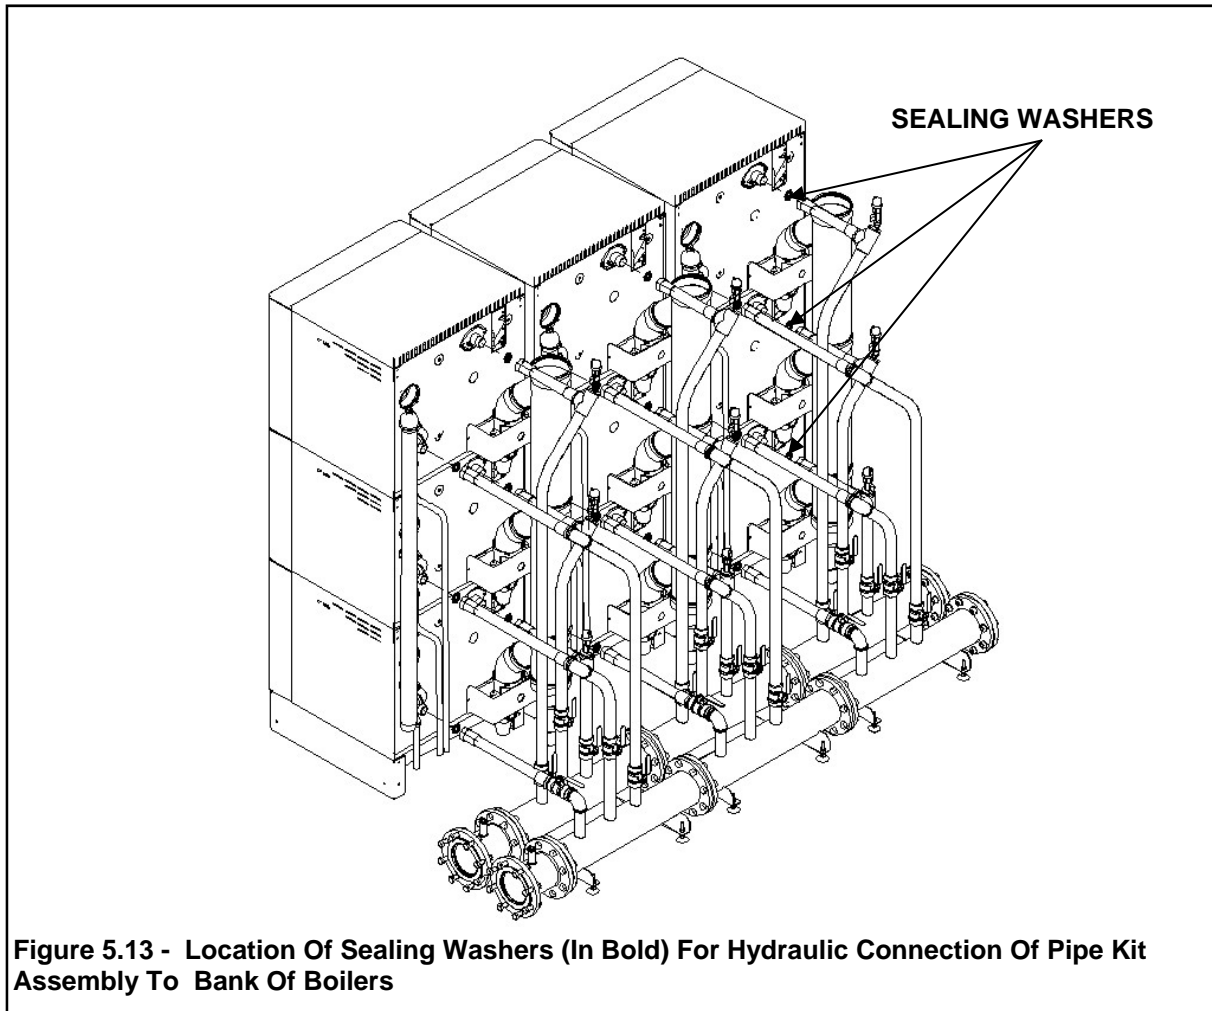

Figure 5.13 - Location Of Sealing Washers (In Bold) For Hydraulic Connection Of Pipe Kit Assembly To Bank Of Boilers
5.22 Place one of each sealing washer (supplied) into the nuts of each of flexible hose as shown in figure 5.13 below.